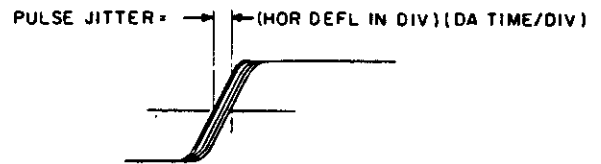

Figure 2-10. Pulse Jitter Measurement
6. The leading edge of the strobed pulse will then show jitter if present. The amount of jitter can be measured in time by multiplying the horizontal distance in divisions of the jitter area by the setting of the DA TIME/DIV knob. See Figure 2-10.